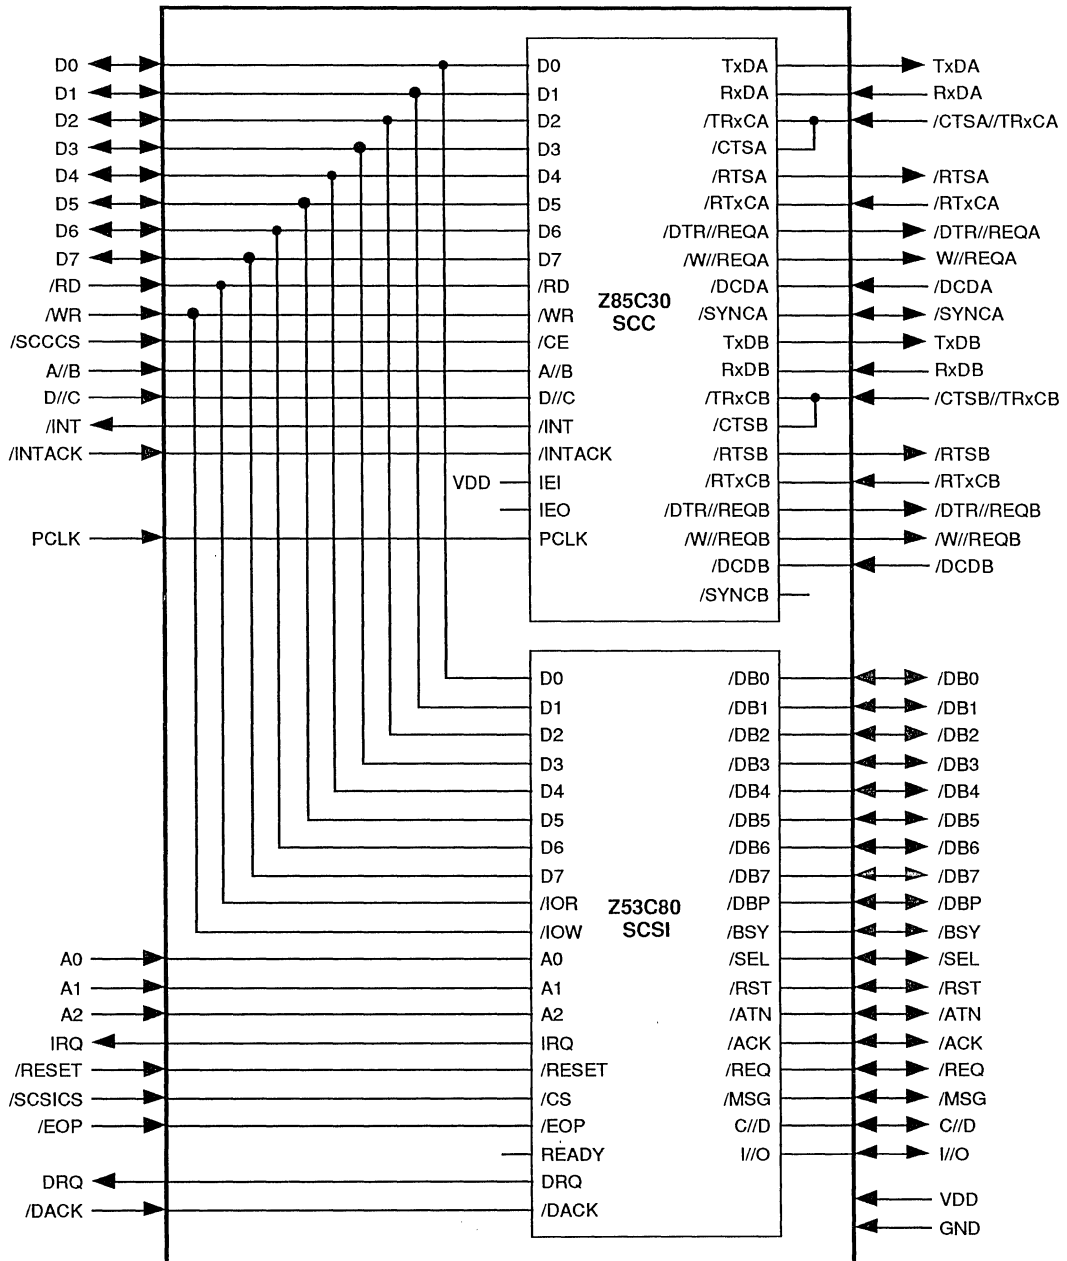

Figure 1. Z85C80 SCS Block Diagram
**Asynchronous Modes.** Transmission and reception can be accomplished independently on each channel with five to eight bits per character, plus optional even or odd parity. The transmitters can supply one, one and one half, or two stop bits per character and can provide a break output at any time. The receiver break-detection logic interrupts the CPU both at the start and at the end of a received break. Reception is protected from spikes by a transient spike-rejection mechanism that checks the signal one-half a bit time after a Low level is detected on the receive data input (RxDA or RxDB in Figure 1). If the Low does not persist (as in the case of a transient), the character assembly process does not start.